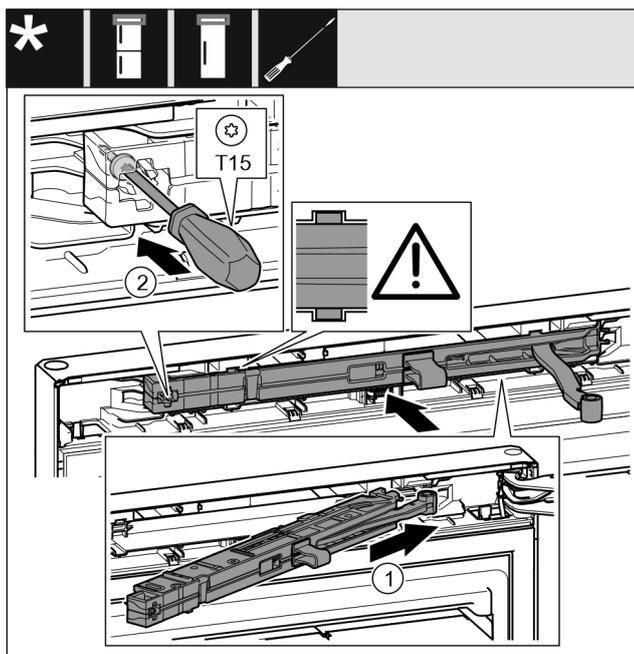

Fig. 71
- ▶ On the swap bearing block side, slide the closing damper unit Fig. 71 (1) into the recess at an angle up to the stop.
- ▶ Use a screwdriver to tighten the screw Fig. 71 (2).